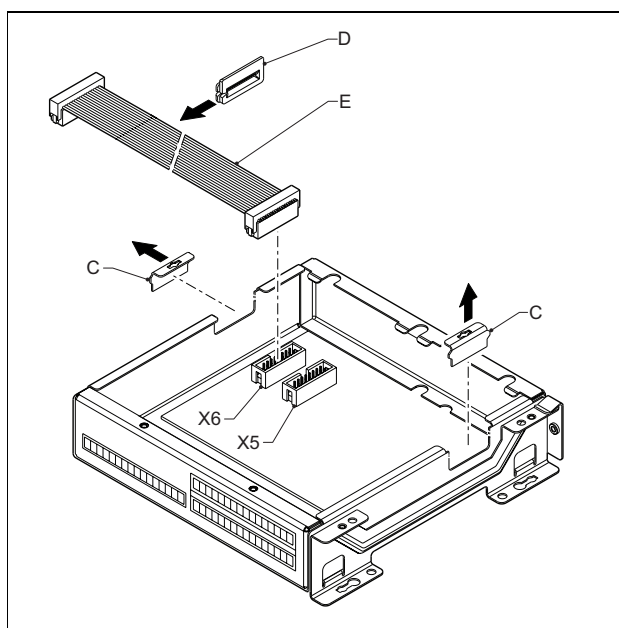
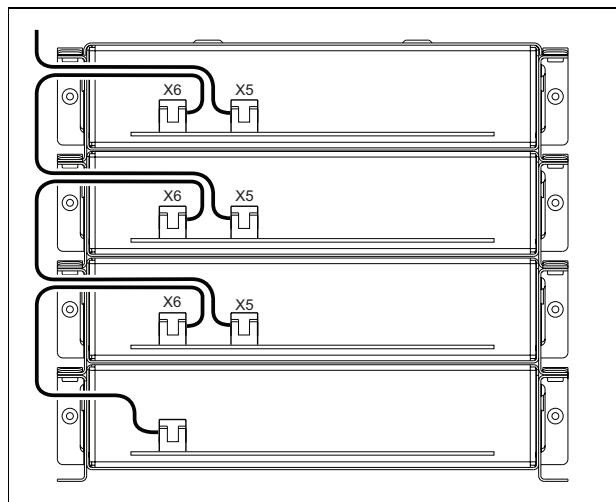
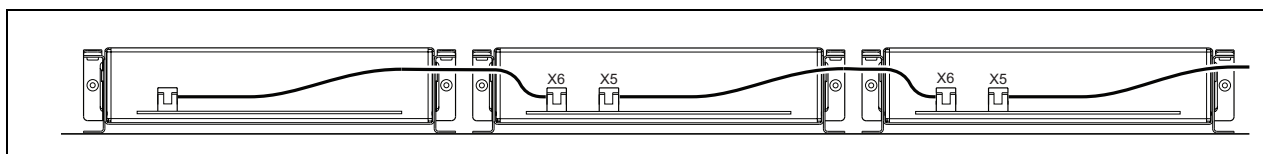

figure 20.9: Knock-out removal
figure 20.10: Flatcable guidance (stacked modules)
figure 20.12: Flatcable guidance (modules next to each other)
- 2 Remove the cable entry knock-outs (C) for the grommets in the modules (see figure 20.9). This depends on the way you want to position the modules (stacked, see figure 20.10 or next to each other, see figure 20.12).
- 3 Put the grommet (D) on the flatcables (E).
- 5 Guide the flatcable to the other module (see figure 20.10 or figure 20.12) and insert the grommet into the knock-out hole.
When the modules are not stacked, but mounted next to each other, put the top covers back on all modules (see figure 20.12).